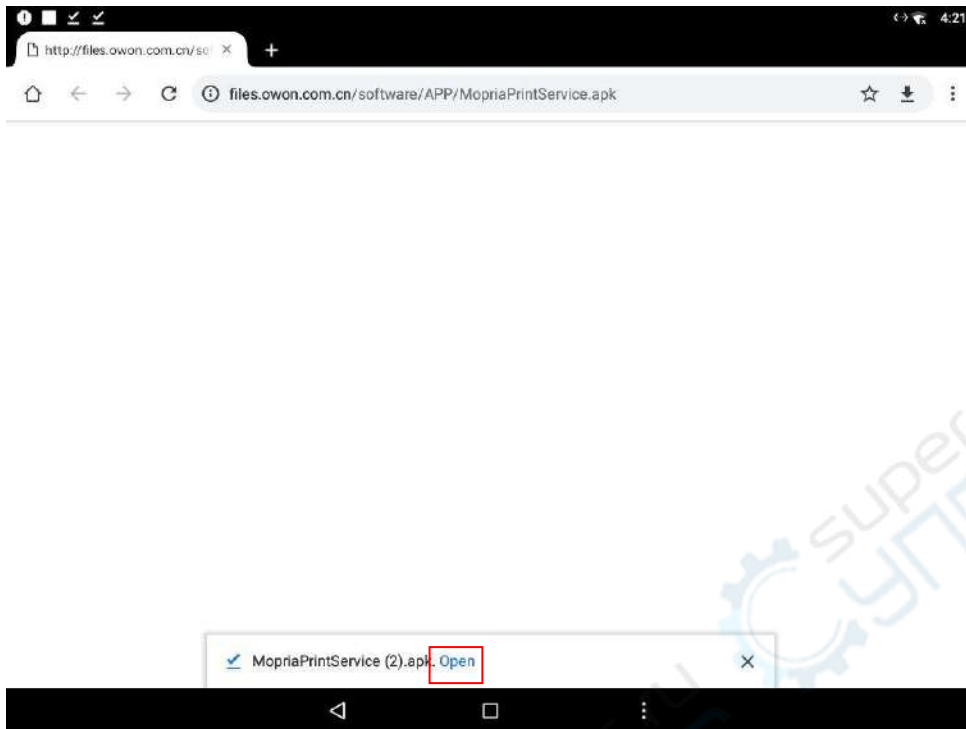

Figure 2
② Click to open installation package, as shown in Figure 2.